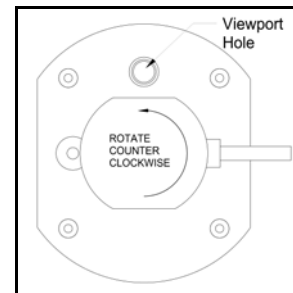

Figure 9
1. Rotate the UV-Aire ballast assembly counter-clockwise until it stops. (See Figure 9)
6. Position the ballast assembly power cord 90° to the viewport hole on the mounting base. (See Figure 9)